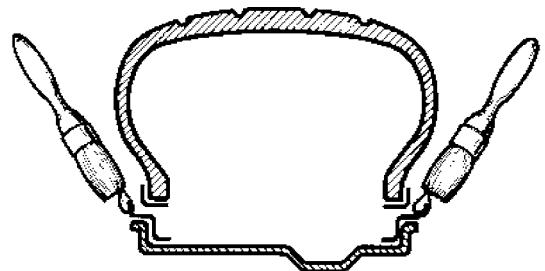

Fig.43
4. Lubricate both beads and the rim surface (fig.43).